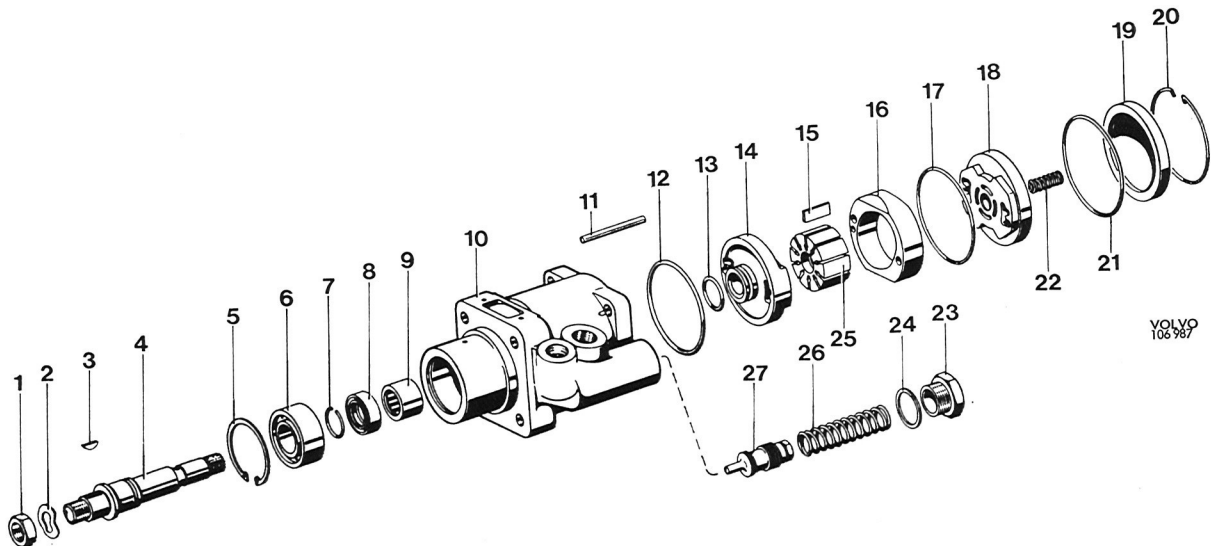
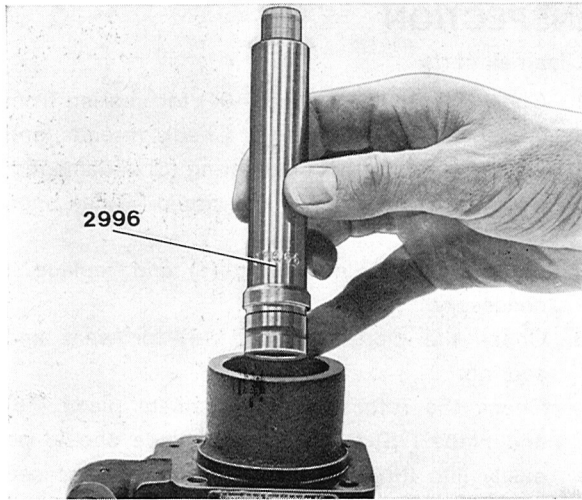

Fig. 6-104. Power pump disassembled
Fig. 6-107. Installing needle bearing
1. Remove the nut (1, Fig. 6-104) and pull off the pulley. If necessary use puller 2279. Remove the brackets.
1. Check the shaft (4, Fig. 6-104) for scoring from seal and needle bearing. Check threads and lands for damage. If the bearing (6) is damaged, it can be removed after the circlip (7) has been taken off.
2. Check the needle bearing (9) and replace if necessary.
4. Check the rotor (25), intermediate piece (16) and blade (15) for wear. The blade should go easily into the rotor. These parts are replaced together in sets.
5. Check that the control valve piston (27) does not jam in the housing bore. Make sure that the piston has the same tolerance group as the housing, that is, that the numbers agree ("1" and "2" or "11").
1. Press the needle bearing (9, Fig. 6-104) into the housing with the help of drift 2996, see Fig. 6-107. The bearing should be pressed in until the tool bottoms so that the needle bearing outer edge is 37.0—37.2 mm (1.45—1.46") from the edge of the housing.